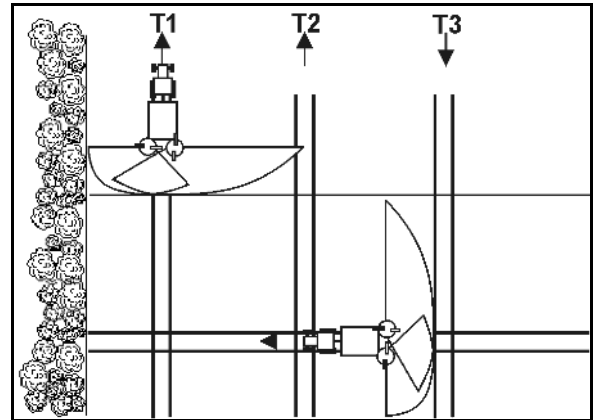

Fig. 92
- Open the slide gate after entering the tramline at point P1 (Fig. 92), when the spreader discs are at distance X from the tramline of the headland.
- Close the slide gate before leaving the tramline at point P2 (Fig. 92), when the spreader discs are located at the level of the first tramline of the headland.